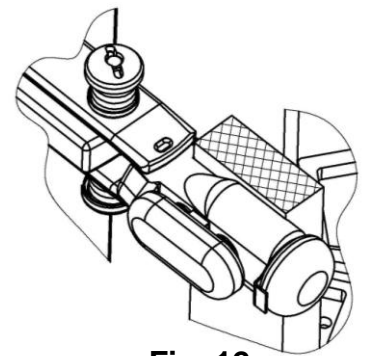

Fig. 12
- For each position, it should be checked if the moving contact stands on the flat part of the fixed contact. If the moving contact doesn't come to stand there, it is necessary to readjust or to repair the mechanism (Fig. 12).